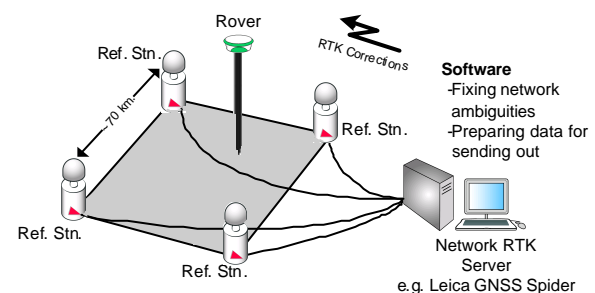

Figure 3: Principle of Network RTK
2. Using the data from all (or a subset of) reference stations to generate corrections that are sent out to the rover (Fig. 3).